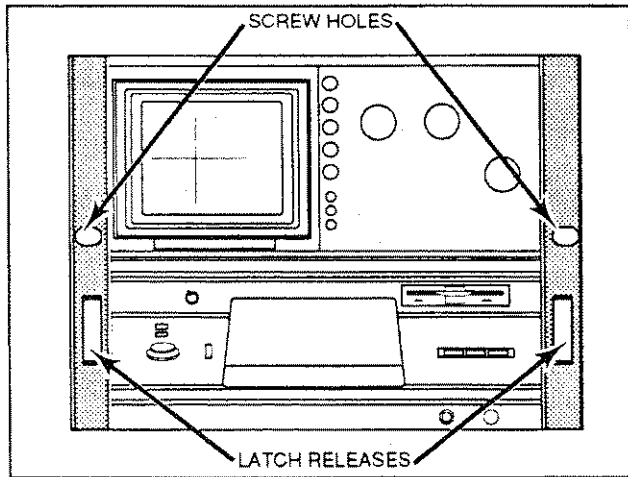

Figure 1-1. Location of the Rackmount Latch Release.
Latching. The 370A incorporates a spring-latch design built into the rackmounting ear. To release, pull the rackmount latch release (see Figure 1-1). To re-latch, push the rackmount latch release until the spring latches engage.
For those applications that require additional rackmounting security, the rackmounting ears of the 370A are drilled for screw fasteners (see Figure 1-1).
6. Extend the instrument out of the rack by pulling the rackmount latch releases on the front panel (see Figure 1-1) out to disengage the spring latches. Then, pull the instrument out.